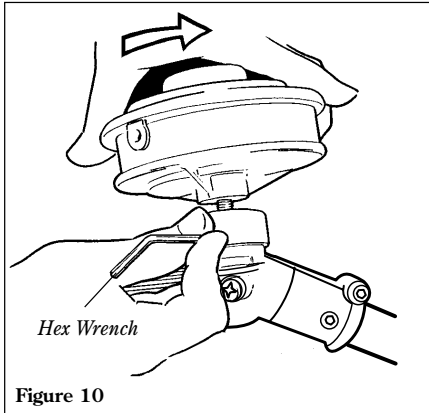

Figure 10
3. Rotate the holder until the hole in the holder aligns with the notch on the gearcase. Use the long end of the hex wrench to lock the holder and output shaft. See Figure 10.